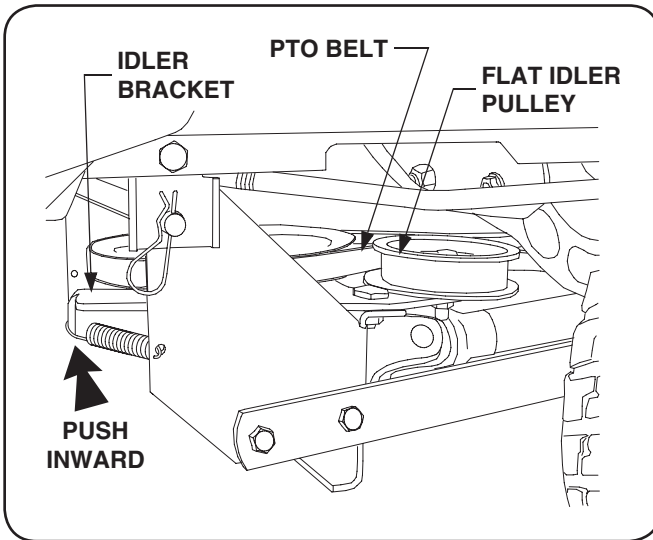

Figure 5-9
13. From the right side of the tractor, press the rearward end of the idler bracket inward to allow the flat backside of the PTO belt in the flat idler pulley. See Figure 5-9.
3. Press inward on the rear of the idler bracket to disengage the PTO belt from the flat idler pulley (Refer to Figure 5-9).